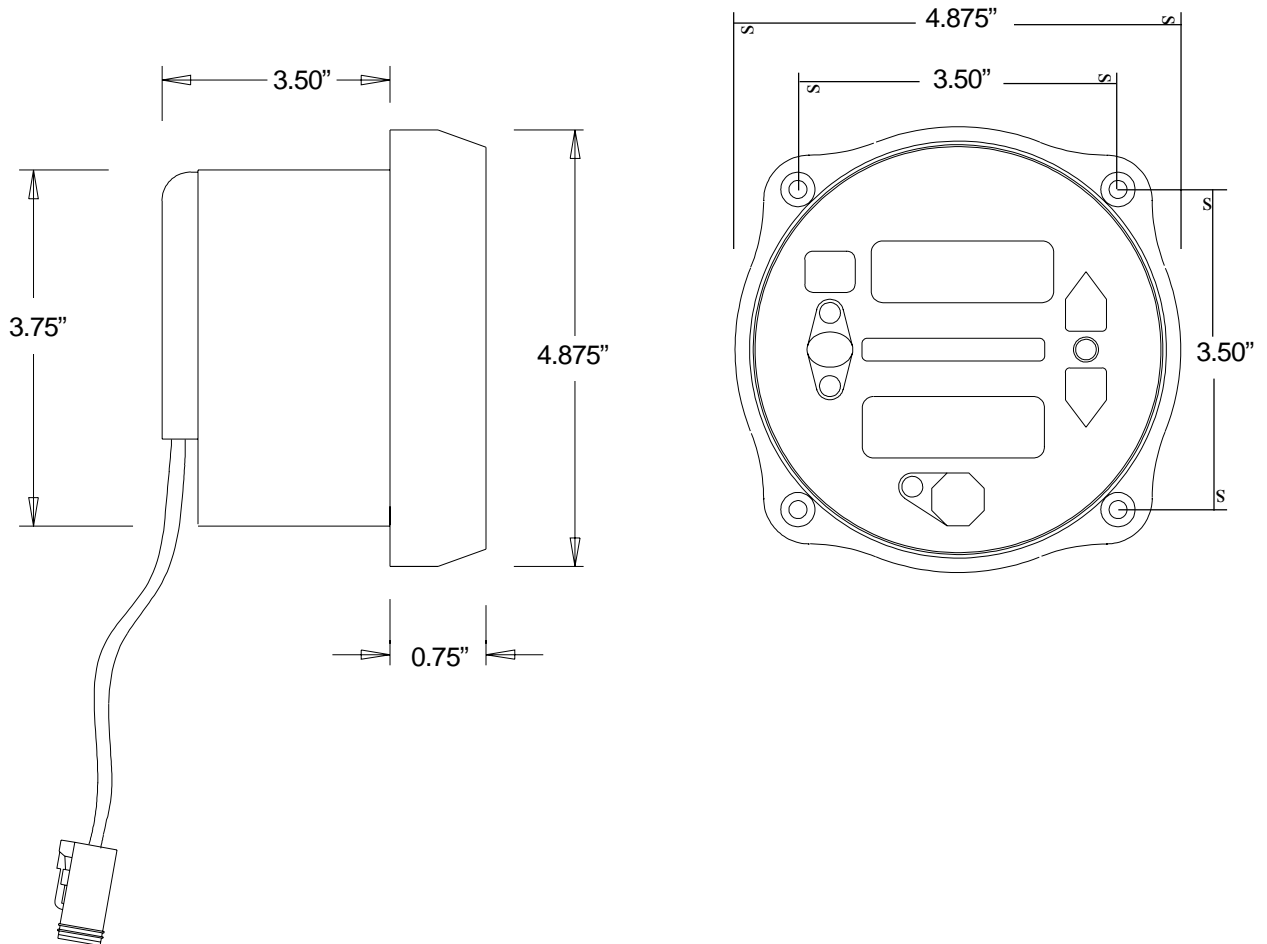

Figure 1. Control Module Dimensions
The control module can be mounted anywhere on the pump panel. Refer to Figure 1 for the **EDGE** control module overall dimensions and the cutout hole dimension.
- 2) Locate and make the diameter cutout specified in Figure 1 in the panel.